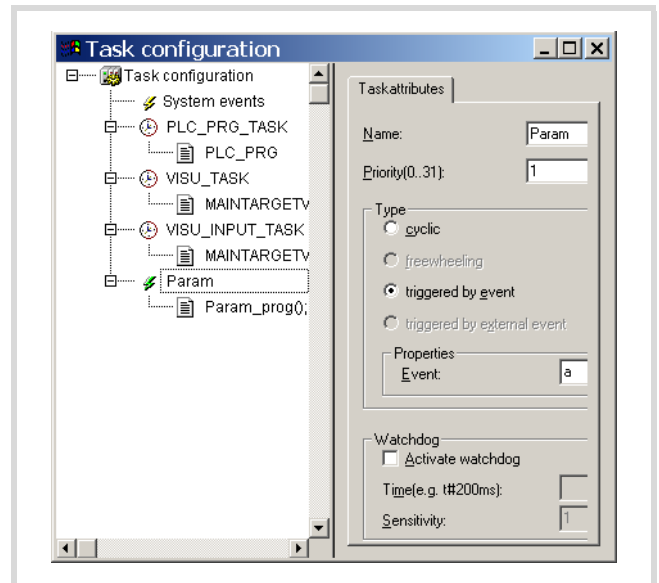

Figure 38: Parameterisation of the event-triggered task
- ▶ Define the Boolean variable "a" as the result of the event. → figure 38